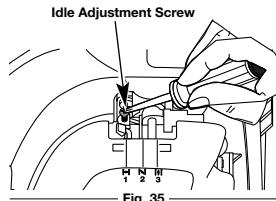

Fig. 35
The idle speed of the engine is adjustable. An idle adjustment screw is between the air filter cover and the engine starter housing (Fig. 35).
2. Release the throttle trigger and let the engine idle. If the engine stops, insert a small phillips in between the Air Filter Cover and the Engine Cover (Fig. 35). Turn the idle speed screw in, clockwise, 1/8 of a turn at a time (as needed) until the engine idles smoothly.